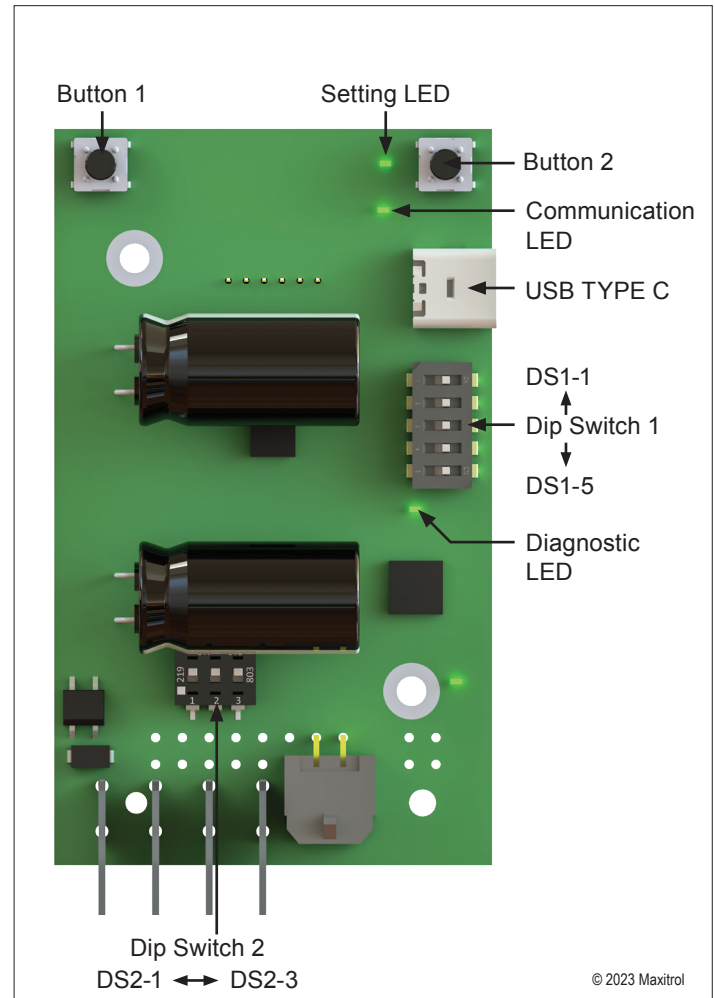

Figure 4: EXA E55 Modulating Valve Series PCB Interface
Step 3: Set DS1-2 to fuel type (see Figure 4, page 8; Table 7, page 4).
Step 4: Set dip switches to match desired control signal input (see Figure 4, page 8; Table 8, page 4).
Step 5: Optional ModBus Control - set DS1-1 to ON to enable (see Figure 4, page 8; Table 7, page 4). DS1-1 ON will disable Step 4 setting.
Observe polarity (see page 5 and Figure 4, page 8).
EXA E55 modulating valves connected to a Modbus communication system can program the high fire and low fire settings by writing to assigned register addresses. Transmission is over RS485 or a USB Type C cable. A Communication LED flashes during data transfers (see Figure 4, page 8).
Remove power. Press and hold the applicable button while powering on (see Figure 4, page 8).
Remove power. Switch Fuel DS1-2 position (see Figure 4, page 8). Restore power.
When valve power is restored, the Setting LED (see Figure 4, page 8) will flash the one's place of the address number. (e.g. two flashes designates address 52.)